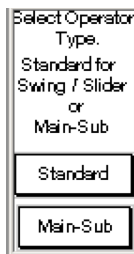
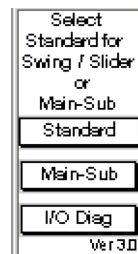
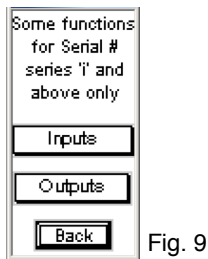

Fig. 3
Fig. 4
Fig. 9
3. For GT-01 software prior to Ver. 3, the screen in Fig. 3 will display. Choose either 'Standard' or 'Main/Sub' operator. For Ver. 3 of the GT-01 software, the screen in
- Fig. 4 will display. For Main/Sub, select 'Lead Door' or 'Follow Door' on the next screen (Fig. 5), then skip to step 5.
Selecting the 'I/O Diag' button from main screen (Fig. 4), will bring you to the screen in Fig. 9. 'Outputs' will display the screen in Fig. 11.
NOTE: When using the newer GT-01 Software with an older PLC, or vice-versa, the initial startup of the GT-01 may be longer than usual and/or may display an error on the screen, it will then clear and go to the initial screen shown in either Fig. 3 or Fig. 4